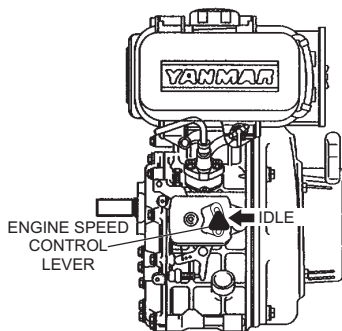

Figure 12. Engine Speed Control Lever (Idle Position)
2. Move the engine speed control lever (Figure 12) to the IDLE position.